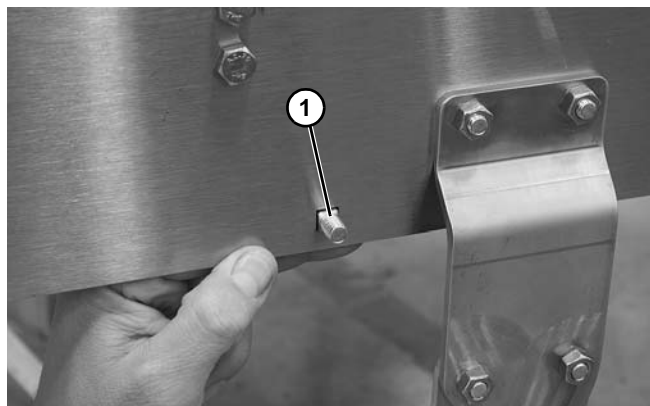

Figure 29
1. Install carriage bolt (Figure 29, item 1) through frame rail.